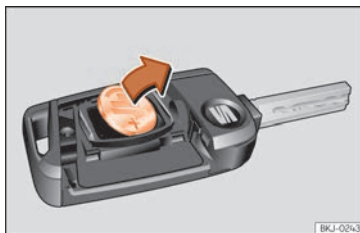

Fig. 133 Vehicle key: removing the battery.
- Extract the battery from the compartment using a suitable thin object **» Fig. 133**.
- Place the new battery in the compartment as shown **» Fig. 133**, pressing in the opposite direction to that shown by the arrow **①**.